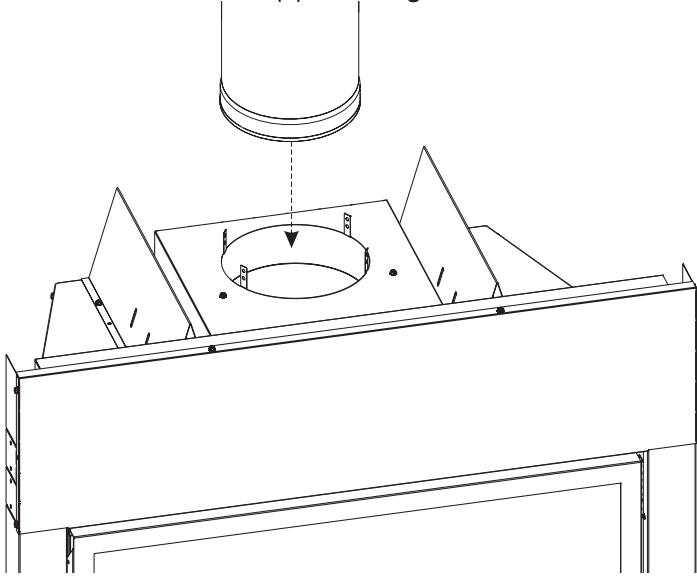

Figure 21
2. Insert the first piece of pipe and secure with 4 screws through the tabs and into the pipe. See **Figures 21 and 22**.